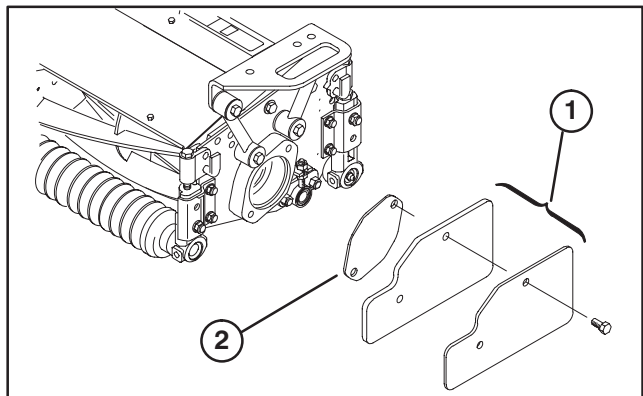
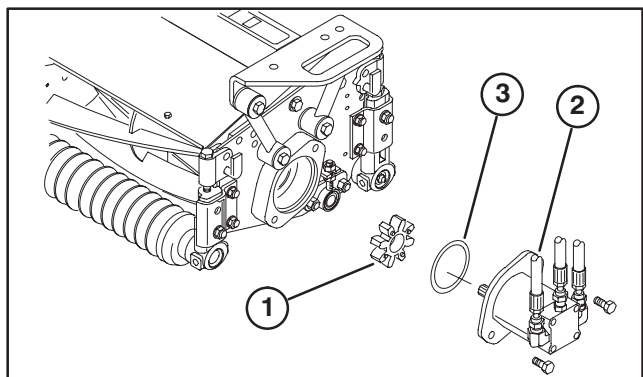

Figure 22
Figure 23
MOUNT CUTTING UNIT DRIVE MOTORS (Fig. 22 & 23)
2. Remove weights and gasket (Fig. 22) from inside end of right hand cutting unit. Remove plug from bearing housing on outside end of right hand cutting unit and install weights and gasket. Locate spider coupling (Fig. 23) shipped in bearing housing.